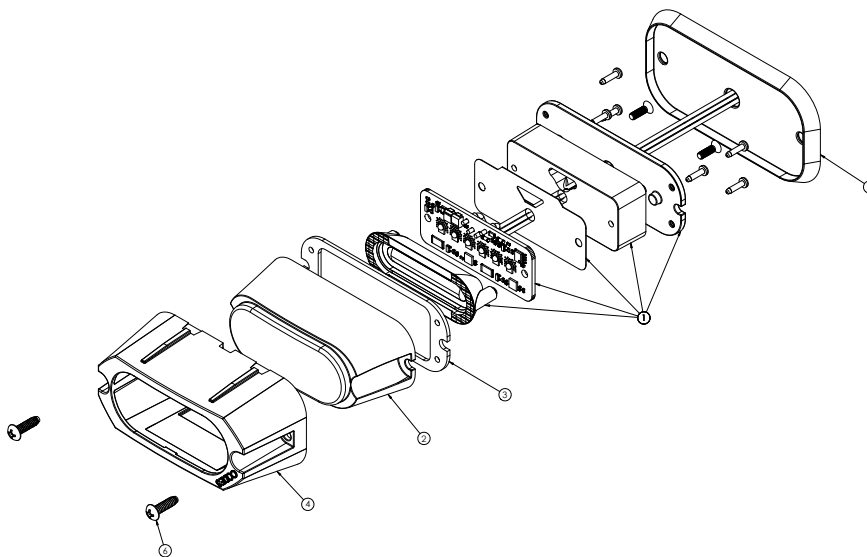

FIGURE 1
Unpacking & Pre-Installation: Carefully remove the hardware, taking care not to scratch the lens, and inspect for transit damage. Report any damage to the carrier and keep the shipping carton. Verify the contents of the package (refer to Table 1 and Figure 1). Test the lights before installation. To test, touch the black wire to the ground and the red wire to 12 VDC. If problems occur, contact the factory.
5. Route the power wires through the center opening of the bezel gasket (refer to Figure 1). Connect the light heads power wires (black and red) to the vehicle system's ground and positive (+12 VDC), respectively. **Seal or cap the end of the white wire to prevent inadvertent changes to the flash pattern.** To sync light heads, connect the purple wires together.
NOTE: It is acceptable to install the light without the Bezel Gasket (ref Figure 1).